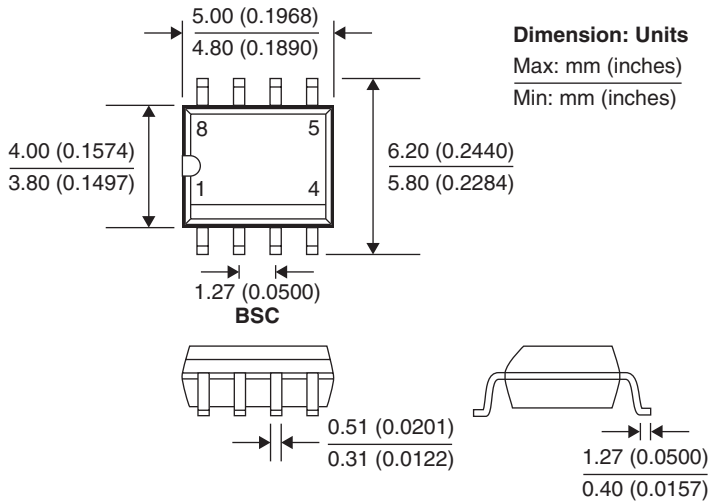
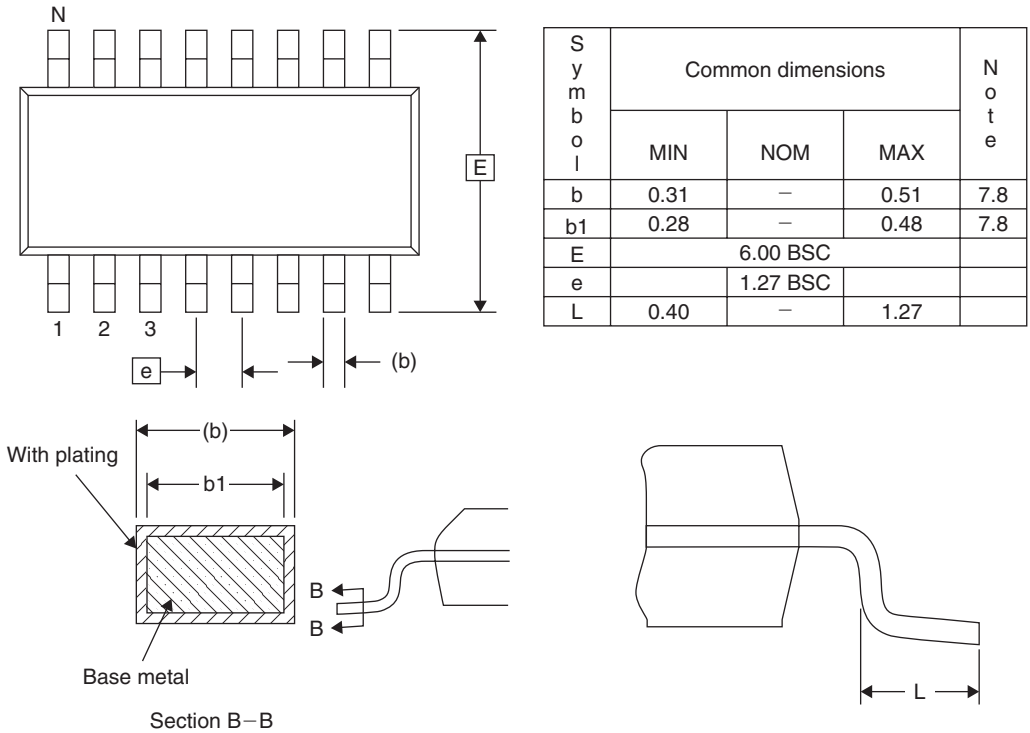
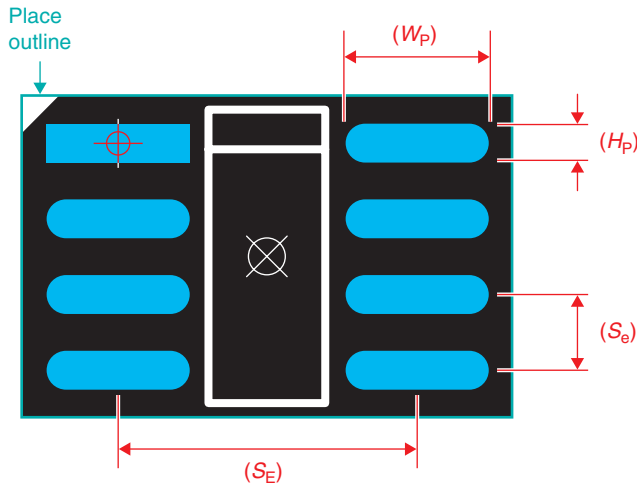

Figure 5-5 Data sheet package dimensions (typical convention).
Figure 5-6 JEDEC package dimensions (typical convention).
Figure 5-7 Footprint dimensions (typical convention).
When you look up a part's data sheet the dimensions are usually with regard to the package. An example of an eight-pin small outline integrated circuit (SOIC) is shown in Fig. 5-5. They may also provide the JEDEC specification. Figure 5-6 illustrates an example of JEDEC standard MS-012 for an SOIC package. Fig. 5-6 reprinted with permission of JEDEC.
From the manufacturer's information and/or the standards we need to be able to determine the padstack width and height and the spacing between the pads in both the x and the y direction as shown in Fig. 5-7, in order to create a new footprint in Layout.
where $W_{P(MAX)}$ is the maximum pad width (see Figs. 5-7 and 5-9); E (MIN and MAX) is the distance between the ends of the leads per the JEDEC dimensions (Fig. 5-6); $E_{TOL(\delta)}$ is the tolerance of E per the JEDEC dimensions or calculated from $(E_{MAX} - E_{MIN})$ (Fig. 5-6); L is the length of the lead that will be soldered to the pad per the JEDEC dimensions (Fig. 5-6); J_T and J_H are solder fillet allowances as described in Tables 5-8 and 5-9, which are derived from IPC-7351; F is the PCB fabrication tolerance (IPC-2221A, Table 10-3, 0.1 mm or 4 mils typically); and P is the placement tolerance of pick-and-place machines (depends on the machine, 0.15 mm or 6 mils is typical); and
where $H_{P(MAX)}$ is the maximum pad height (see Figs. 5-7 and 5-9), b_{MIN} is the minimum lead width, J_S is the solder fillet allowances as described in Table 5-10, $b_{TOL(\delta)}$ is the tolerance of b
per the JEDEC dimensions or calculated from $(b_{\text{MAX}} - b_{1\text{MIN}})$ (Fig. 5-6), and F and P are as described for Eq. (1).